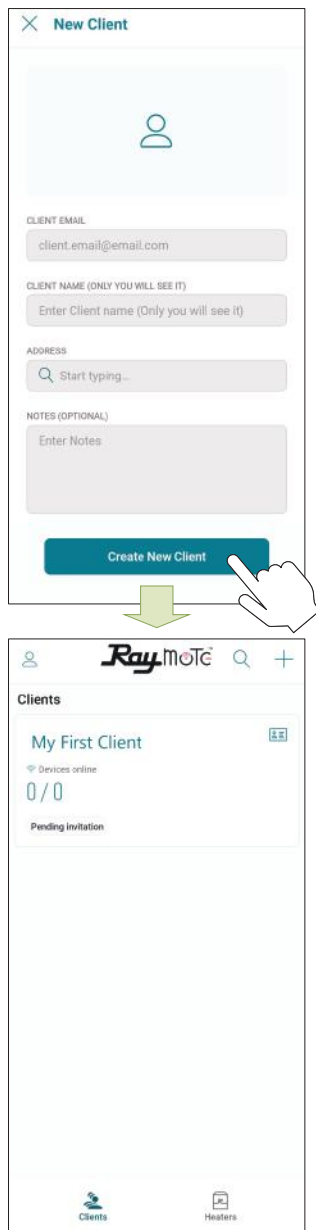

Figure 116. Enter Client Email and Invite
5. When ready, press **[Create new client]**. An Raymote invite email will be sent to your new client. See Figure 116.